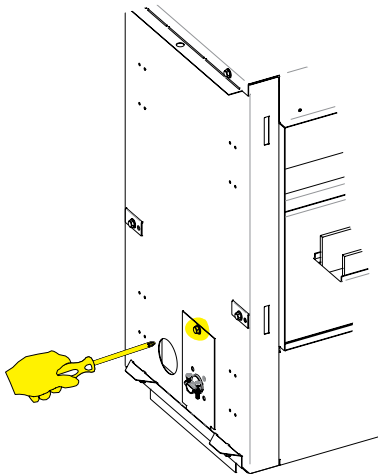
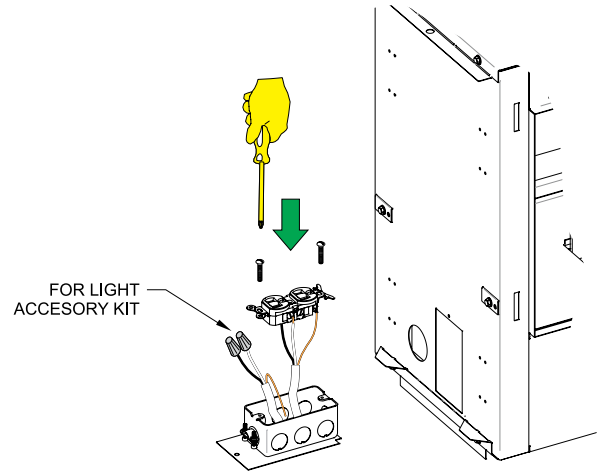

Figure 13
Figure 14
- The junction box is located on the end of the fireplace. Remove the 5/16" Hex screw that secures the junction box to the firebox, and remove the junction box. **See Figure 13**. Run romex wire through the right rear corner of the fireplace and into the firebox area. Secure wiring with the romex connector as required and install the duplex receptacle as shown in **Figure 14**. Attach the black wire to the brass screw side of the receptacle, and the white wire to the opposite side. Secure the incoming ground wire under the green ground screw provided on the receptacle.
- If only installing the LK5 Accent Light kit, then remove the 7/8" diameter knockout in the side of the junction box, install the 7/8" diameter protective grommet, and connect the wiring with wire nuts as shown in **Figure 14**.